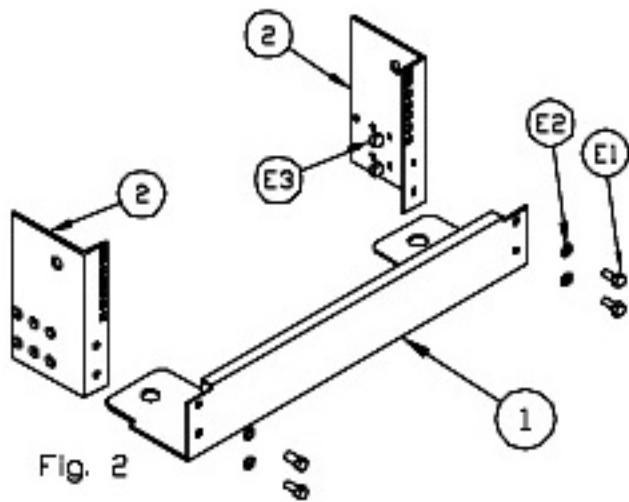

Fig. 2
Attach Base Angle Weldment (1) to Rack Mount Rail (2) using Screws (E1), Washers (E2) and Nuts (E3). See Fig. 2